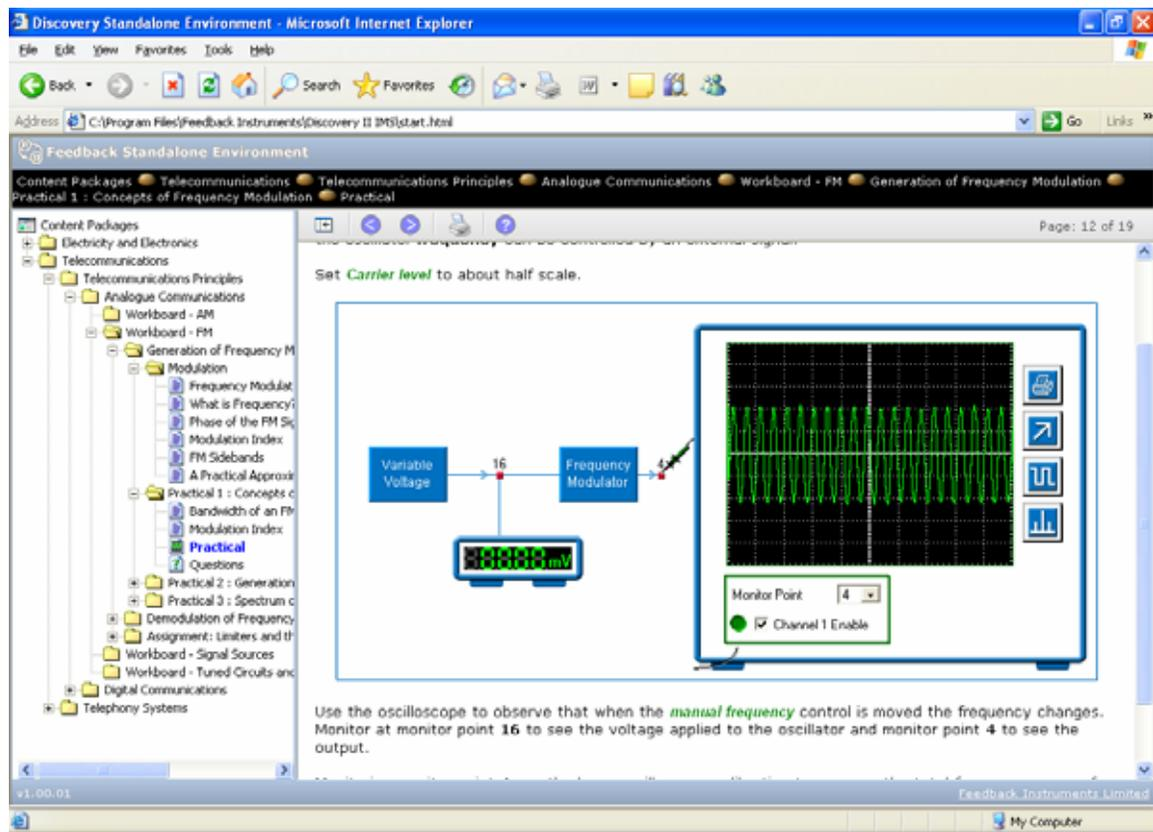

Figure 2
*Figure 2* shows the output signal when input voltage is 0 V. you can measure the frequency in the time domain using the oscilloscope and also in the frequency domain using the spectrum analyzer.